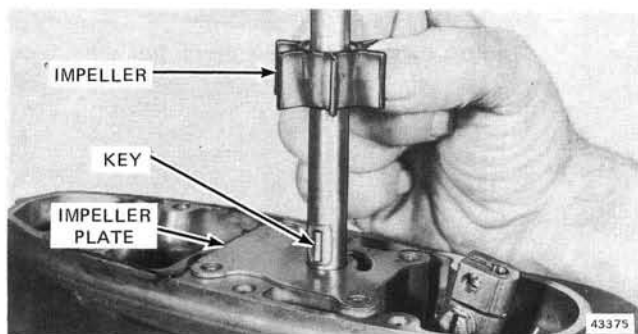

Figure 6-57. Installing Impeller Over Key
12. Apply a fine bead of OMC Adhesive "M" to water pump impeller plate and install. Use OMC Needle Bearing Grease to hold impeller pin on flat spot of driveshaft. Slide impeller down driveshaft and over pin. See Figure 6-57.